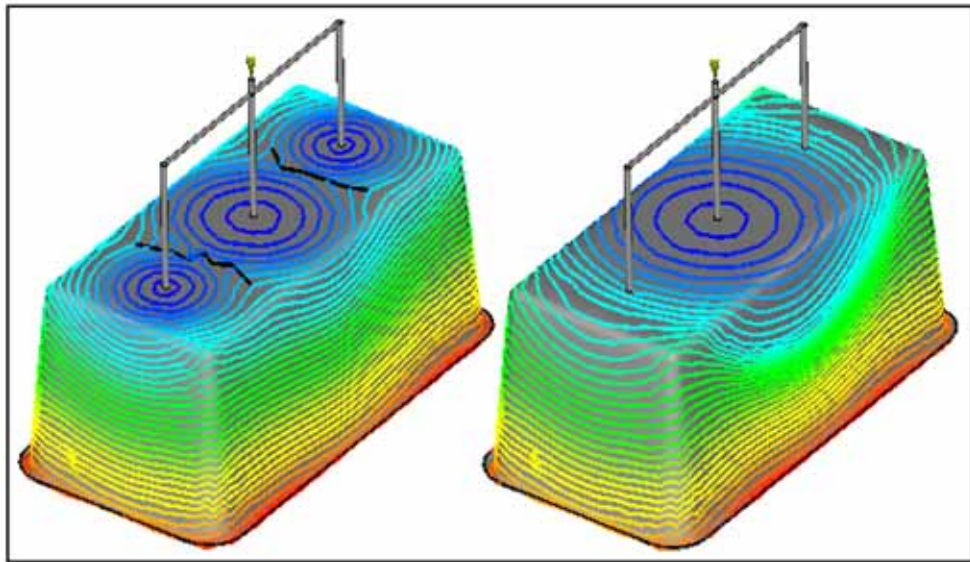

Figure 130: Filling pattern for the tub with and without valve gates
- Notice that the weld lines are gone for the **Tub with valve gates** study and the balance is very similar between the studies, as shown in Figure 130.